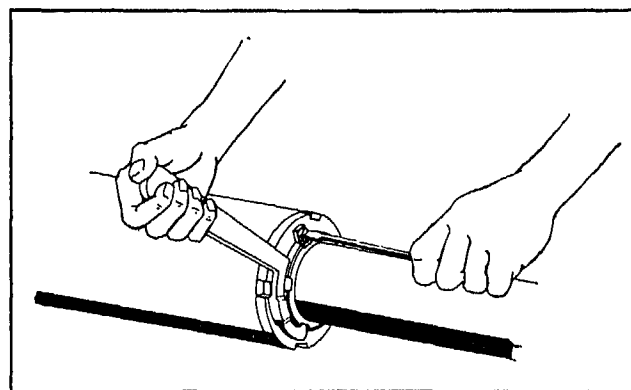

Fig. 15. Rod Packing Adjustment
emerges from the cylinder. Install the setscrew (15) and lockwasher (15A). This compensates for packing growth and allows the wiper seal to remove dirt and other foreign matter from the piston rod as it is drawn into the cylinder. The rod packing is the chevron type and is made up in sets of neoprene rubber and phenolic rings. (See Fig. 15):
Remove the setscrew (15), lockwasher (15A). Adjust the rod packing by turning the packing nut so a slight film of oil adheres to the piston rod at all times as it emerges from the cylinder. Install the setscrew (15) and lockwasher (15A). This compensates for packing growth and allows the wiper seal to remove dirt and other foreign matter from the piston rod as it is drawn into the cylinder. The rod packing is the chevron type and is made up in sets of neoprene rubber and phenolic rings. (See Fig. 15).